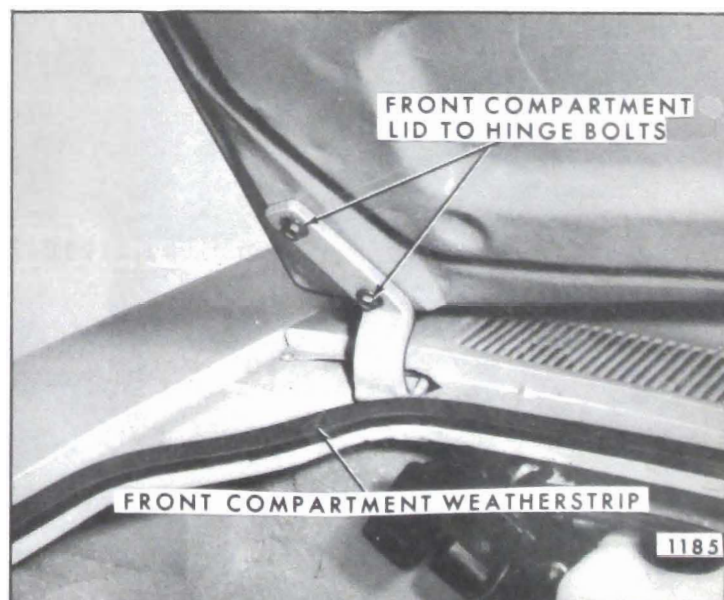

Fig. 3-26—Front Compartment Weatherstrip And Front Compartment Lid Attaching Bolts
3. With aid of a helper remove hinge to lid attaching bolts from each hinge and remove lid (See Fig. 3-26).
- a. To raise rear edge of lid at hinge area, place shim between hinge strap and lid inner panel at rear attaching bolt (Fig. 3-26).
- b. To lower rear edge of lid at hinge area, place shim between hinge strap and lid inner panel at front attaching bolt (Fig. 3-26).